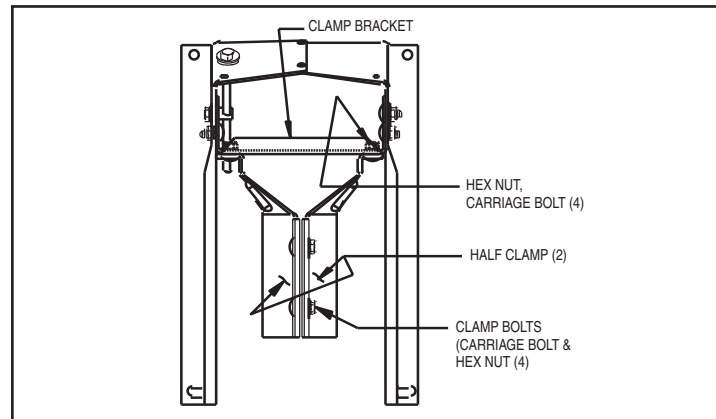

FIG. 1.1 - Model 611612002 AZ/EL w/o Fine Tune Option
Make sure (4) carriage bolts and nuts securing the (2) Half Clamps to top bracket are loose. (Ref. Fig. 1.1) Place AZ/EL Cap onto Ground Pole and tighten (4) Half Clamp Bolts to approximately 2 ft-lbs (2.7 N-m) (just enough to allow AZ Clamp to turn on pole with slight pressure). Tighten and torque (4) Carriage Bolts and Nuts in Top Bracket to 18 ft-lbs (24.4 N-m) (loosened above).